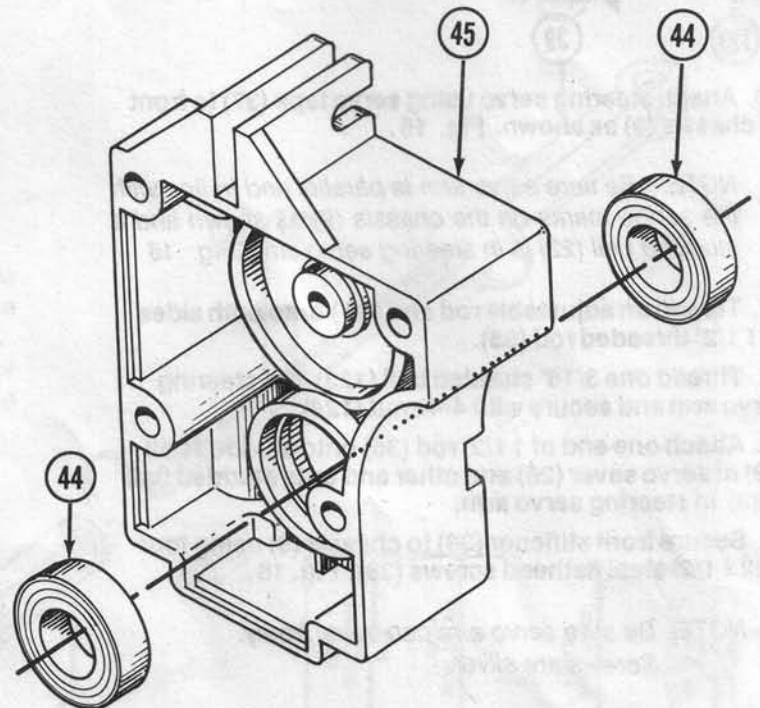

FIG. 18
4. Insert two 8mm x 14mm bearings (44) into both sides of lower bearing seat in right half of gearbox (45). Fig. 18.